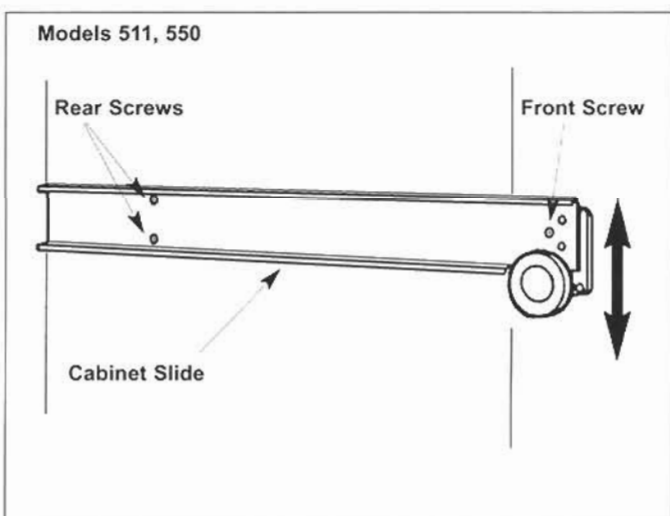

Figure 2-10. Drawer Up-And-Down Adjustment
1. Loosen the two rear screws of each cabinet drawer slide, and remove the screw at the slide front (Figure 2-10).
2. Relocate the front screw to the desired position (Figure 2-10). After adjustment, tighten all screws and reinstall the drawer. Check door seal for proper gasket seating.